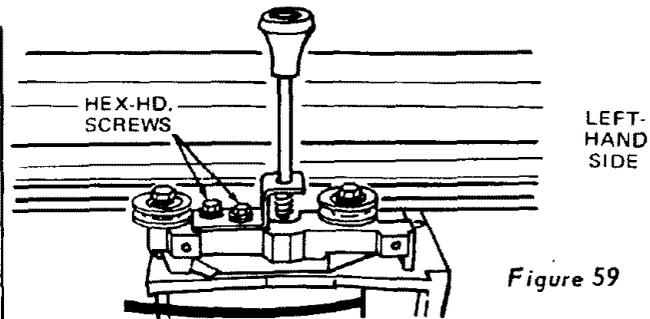

Figure 59
- (3) Loosen (slightly) two hex-head screws (figure 59).
- (4) Rotate the yoke until the gap between the saw blade and the square is eliminated.
- (5) Lock the yoke with the yoke clamp handle, and tighten the two hex-head screws (figure 59).